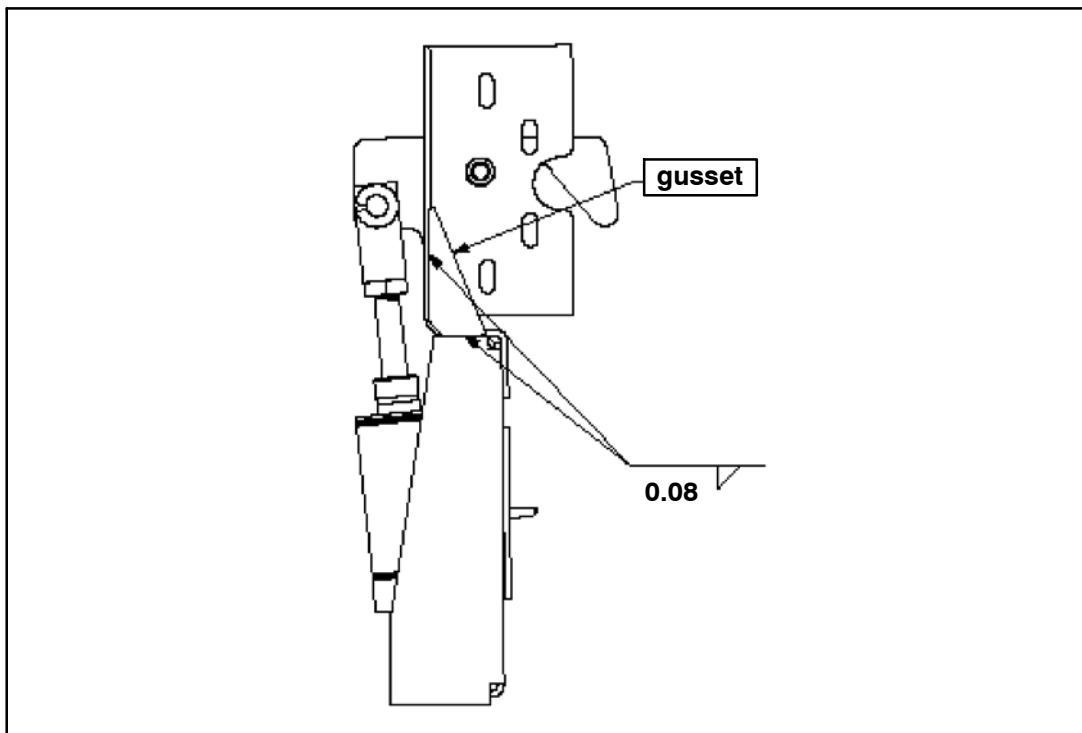

Figure 24.
31. Position gusset, p/n 03–31–3260, as shown in Figure 24. Weld gusset flush on existing bracket assy–cylinder upper as per specifications shown in Figure 24.